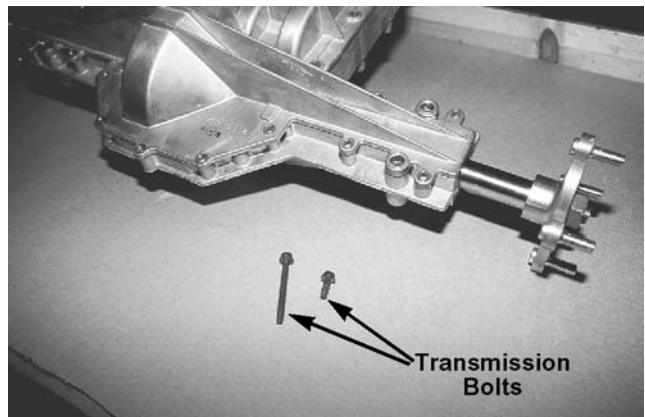

Figure 5-67.
5. Turn the transmission over to allow access to the perimeter bolts. There are two sizes of perimeter bolts. Most will be 3/4 inch long. One is in the center of the transmission. See Figure 5-67.